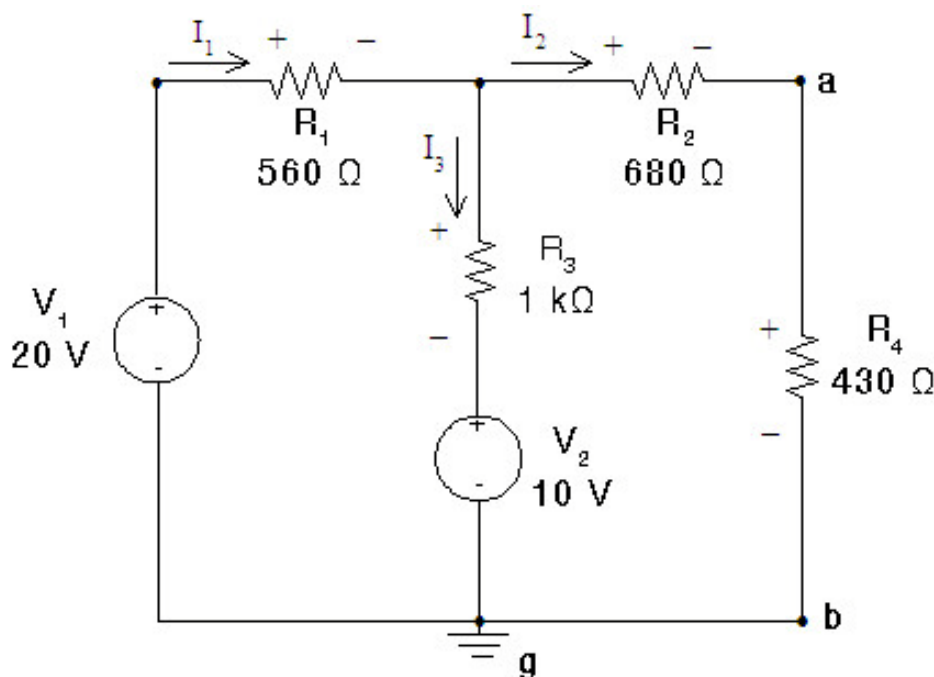

Figure 2 Circuit for Superposition, Thévenin Equivalent and Maximum Power Transfer
1. Solve the circuit of Figure 2 using the principle of superposition. That is, determine the currents through all the elements and voltages across all elements. Record the answers in Table 3.
2. Again, consider the circuit of Figure 2. Determine the Thévenin equivalent of the circuit with respect to the nodes a-b with the resistor R_4 removed. Use this Thévenin equivalent circuit to determine the current through the resistor R_4 and the voltage across it. Redraw the circuit using the Thévenin equivalent. Change R_4 to 1.5 k Ω and 2.2 k Ω and calculate the current through the resistor R_4 and the voltage across it using Thévenin equivalent of the circuit. Record the calculated values in Tables 4 and 5.
3. Determine the value of a resistor R_L to be connected between nodes a and b (Figure 2, *without* R_4) so that it consumes the maximum power. Determine the maximum power delivered to the resistor R_L .
- 2.2.1 Construct the circuit of Figure 2. Ensure that the voltage sources are exactly 20 V and 10 V after they are connected in the circuit using the DMM.
- 2.2.2. Measure the three currents in the circuit (note the direction) indicated in Figure 2. Record these reading in Table 3.
- 2.2.3 Measure the voltage across each resistor in the circuit with the polarity as shown in Figure 2. Record these reading in Table 3.
Table 3 Superposition in Linear Circuits (Figure 2)
2.3.1 Connect the circuit shown in Figure 2 with both voltage sources. Remove the R_4 ($430\ \Omega$) resistor from the circuit. Switch on the power supply and ensure that the voltage sources are exactly 20 V and 10 V. Measure the voltage across the open circuit terminals (a-b). This is the Thévenin equivalent voltage. Record this value in Table 4.
Table 4 Thévenin equivalent circuit (Figure 2)